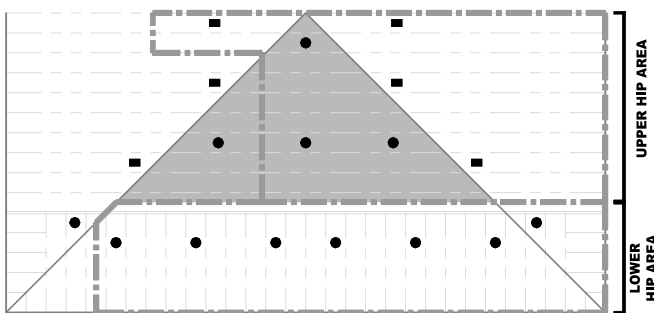

FIGURE 20A
- Calculate up to the 7 most demanding contiguous sprinklers along the eave. This may include sprinklers on both sides of the hip line as shown. See Figure 20A and Figure 20B.
If there are 4 sprinklers or less in the shaded area (Figure 20A):